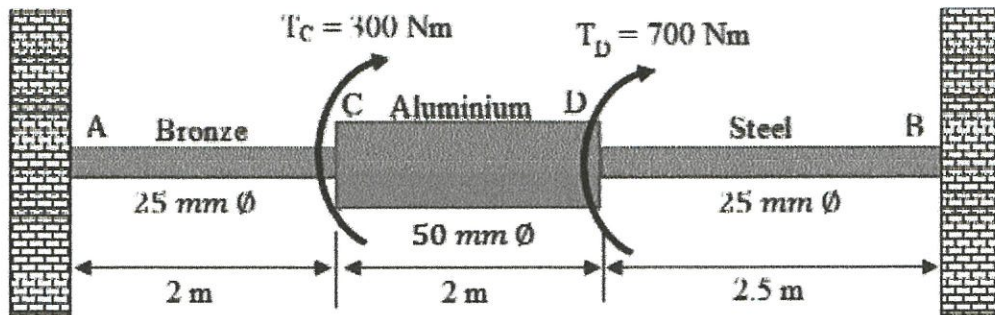

Figure Q5(b)
- (b) A shaft of segments AC , CD , and DB is fastened to rigid supports and loaded as shown in **Figure Q5(b)** with $(300 + Z)$ Nm applied at point C and $(700 + Z)$ Nm applied at point D . Take the modulus of rigidity for the material is $G_{Brz} = 35$ GPa for bronze, $G_{Al} = 28$ GPa for aluminum and $G_{St} = 83$ GPa for steel. Determine The support reactions at walls, T_A and T_B .